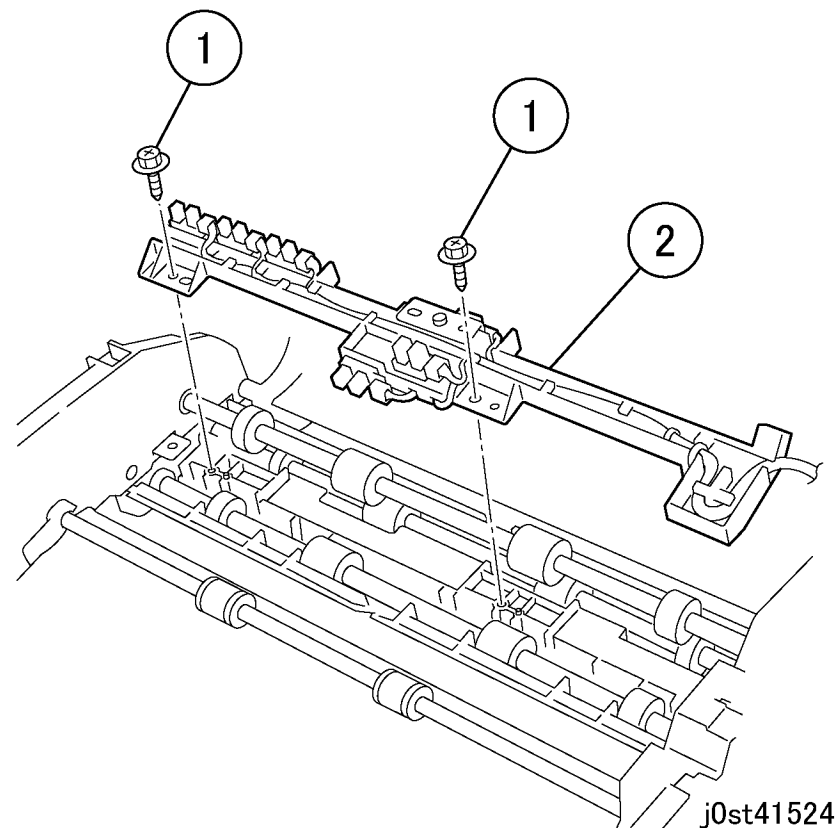

Figure 4 Removing the Sensor Guide
10. Remove the sensor holder (Figure 4).